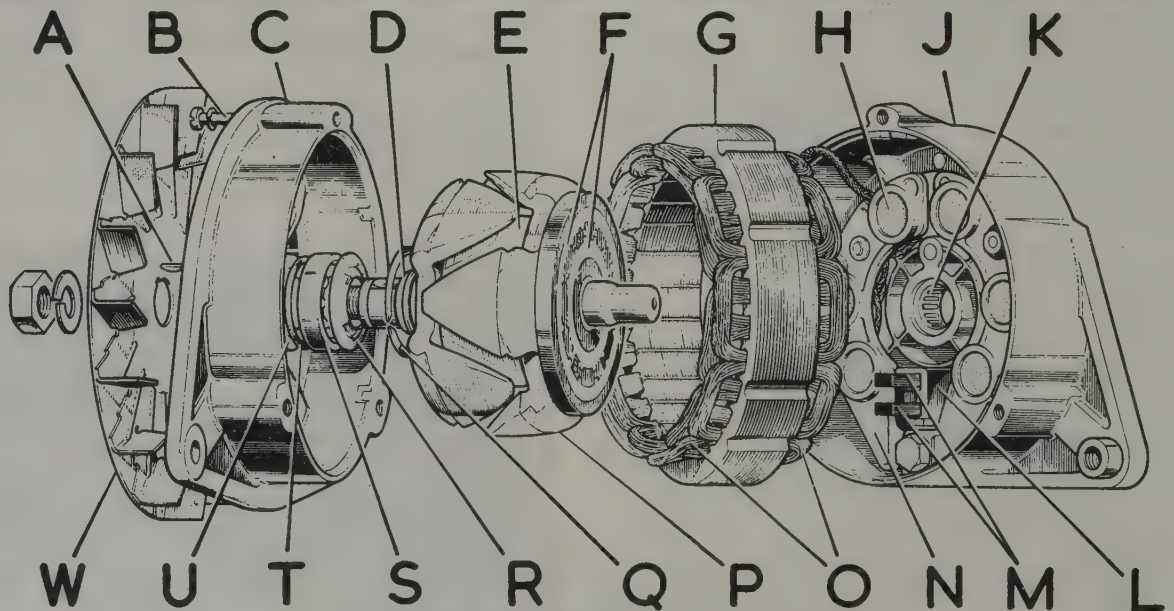

Fig. 10.5. Exploded view of the Lucas 11AC alternator
- 1 Remove the single screw and withdraw the plastic cover from the slip-ring end bracket "J" (Fig.10.5).